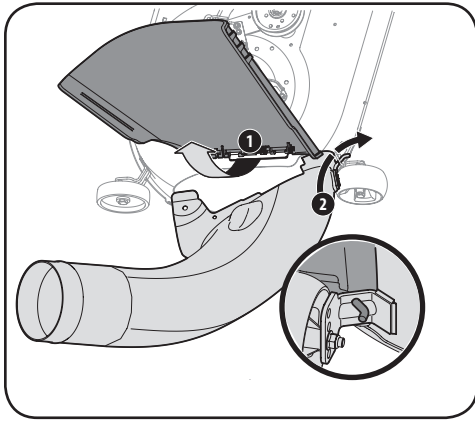

Figure 4-21
2. With the tractor's discharge chute raised up and held open (1), install the chute elbow by placing the chute elbow mounting rod into the chute mounting tab (2), as shown in Figure 4-21.